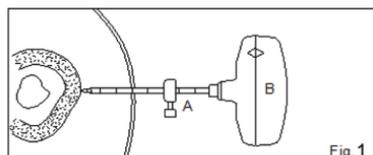

Fig 1
- FIG. 1** Depending on the depth of the bone to be reached, adjust the depth gauge on the Cutting Cannula (A) to the appropriate centimeter marker and tighten to provide a visual guide. Introduce, rotating counterclockwise, the assembled Cutting Cannula and Stylet and Handle (A+B+F) until engaged with the bone surface.